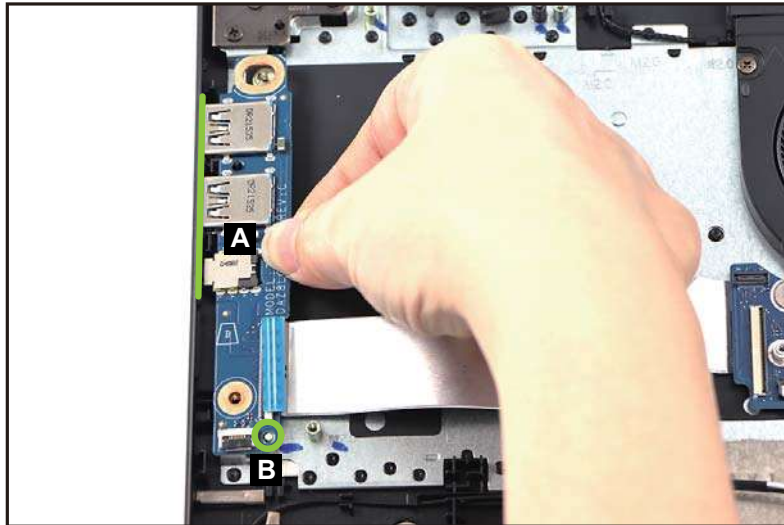

Figure 3-89. Replacing the IO Board
1. Align and slide the I/O connectors slots on the IO board (A) into its slot on the top assembly. Then place the IO board onto its compartment until it is fully seated and secured to the guide pin (B) (Figure 3-89).